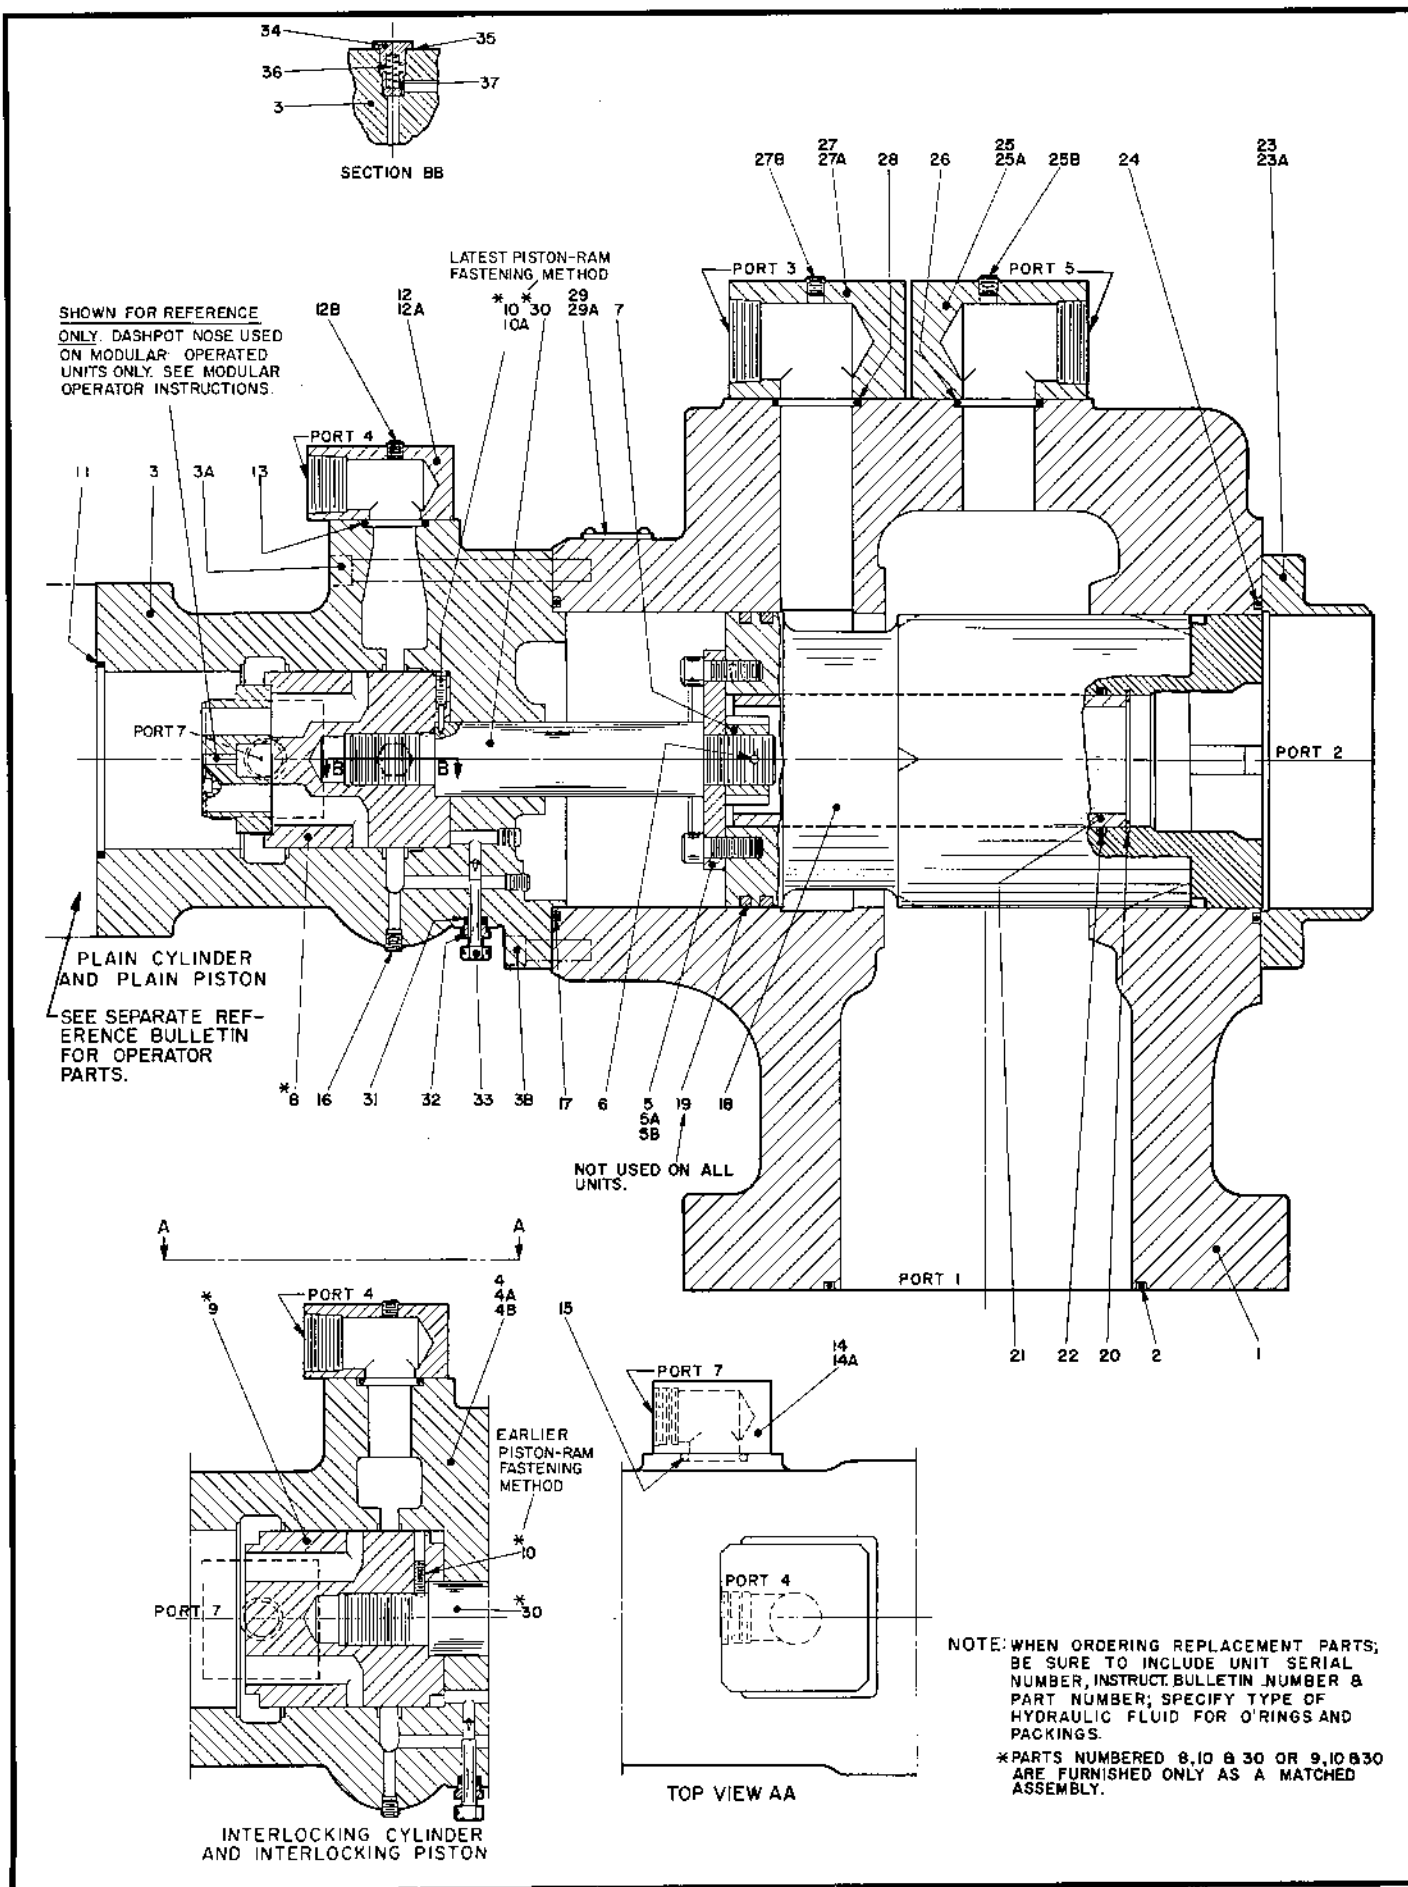

Figure 2. Parts Drawing, Basic Size 250 and Larger Prefill Valves Without Operators DS-986308B (504676B).
Refer to Figure 2. The principle parts of these prefill valves are an operator (see separate reference bulletin); a control cylinder (3 or 4) and a control piston (8 or 9) of either the standard or interlocking type; the prefill valve body (1) and the prefill valve plunger (18).
Refer to figure 2. It will be advantageous to tag similar parts (particularly screws, plugs and o-rings) during disassembly to be certain they don't become confused with similar parts and to ensure they will be returned to original location. Do not remove (locator) roll pins unless they are deformed or otherwise in need of replacement.
Refer to figure 2. Depending upon what part or parts are to be inspected, it may not be necessary to completely take apart all assemblies or disconnect piping.